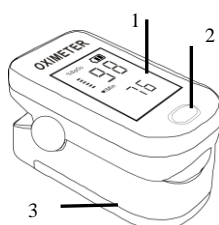

FIG.1 Parts of front & back panel
3.1 Description of the Front Panel (as FIG.1)